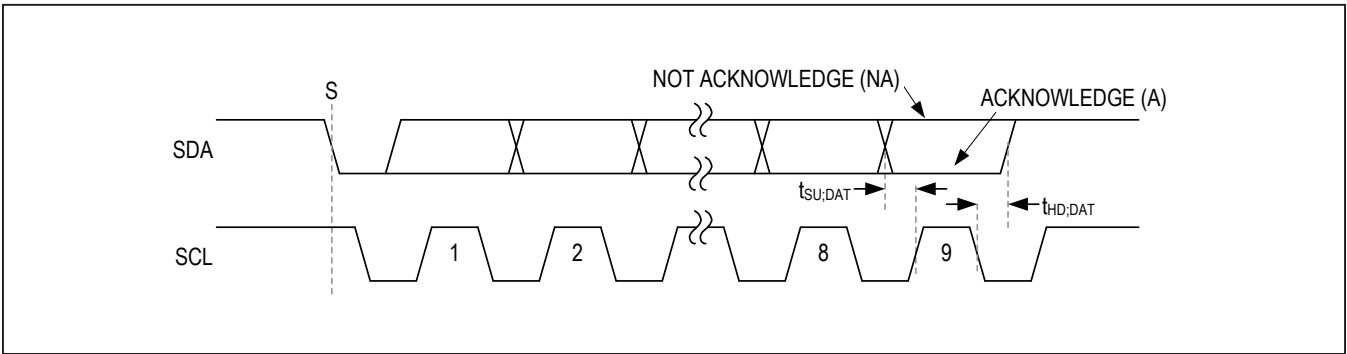

Figure 24. Acknowledge Bit
Both the I2C bus master and the MAX77650/MAX77651 (slave) generate acknowledge bits when receiving data. The acknowledge bit is the last bit of each nine bit data packet. To generate an acknowledge (A), the receiving device must pull SDA low before the rising edge of the acknowledge-related clock pulse (ninth pulse) and keep it low during the high period of the clock pulse. See Figure 24. To generate a not-acknowledge (nA), the receiving device allows SDA to be pulled high before the rising edge of the acknowledge-related clock pulse and leaves it high during the high period of the clock pulse.